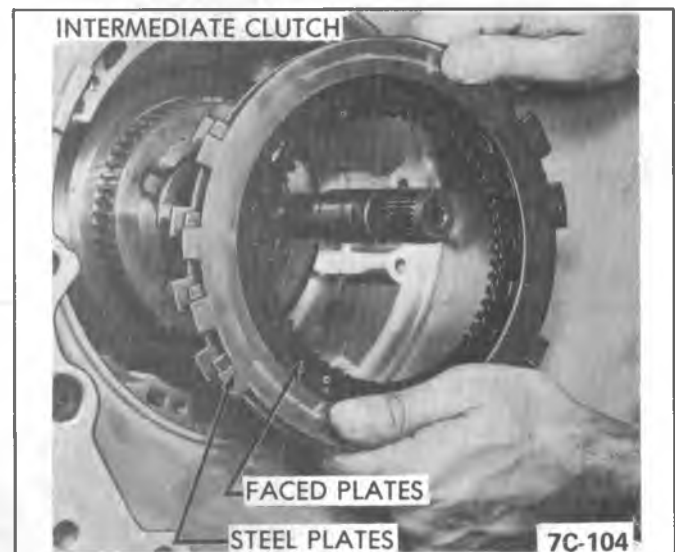

Figure 350C-131 Intermediate Clutch Plates
3. Install intermediate clutch cushion spring. See Figure 350C-132.